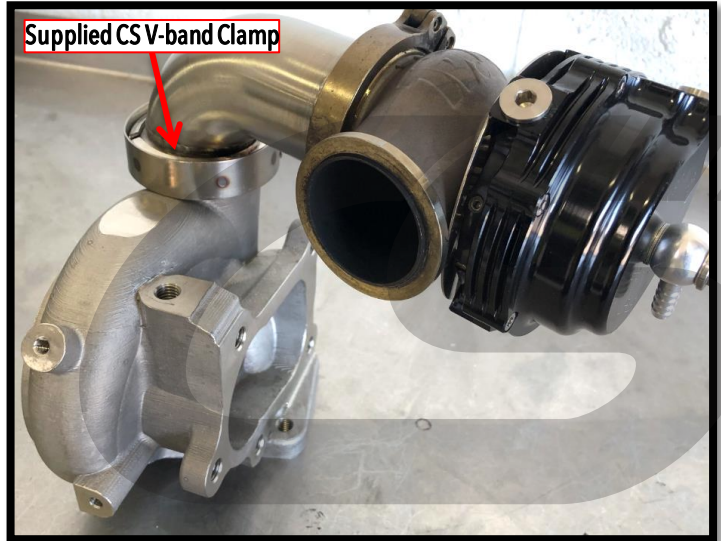

Figure 11c
- b) Attach the CS Elbow loosely on the EWG port of the turbine housing using the supplied CS V-band clamp. Tighten the clamp with an 11mm socket just enough so that the components stay connected together, but loose enough that they can still rotate. Shown in **Figure 11c**.